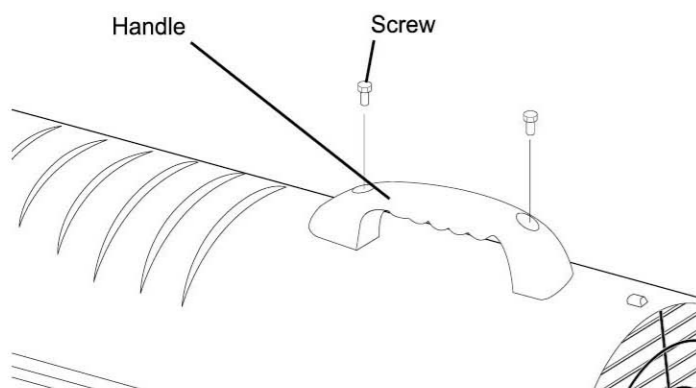

Figure 6. Handle Mounting, Models ZB-K45/K70
1. Align the holes in the upper housing with the 2 holes in the handle as shown in **Figure 6**.